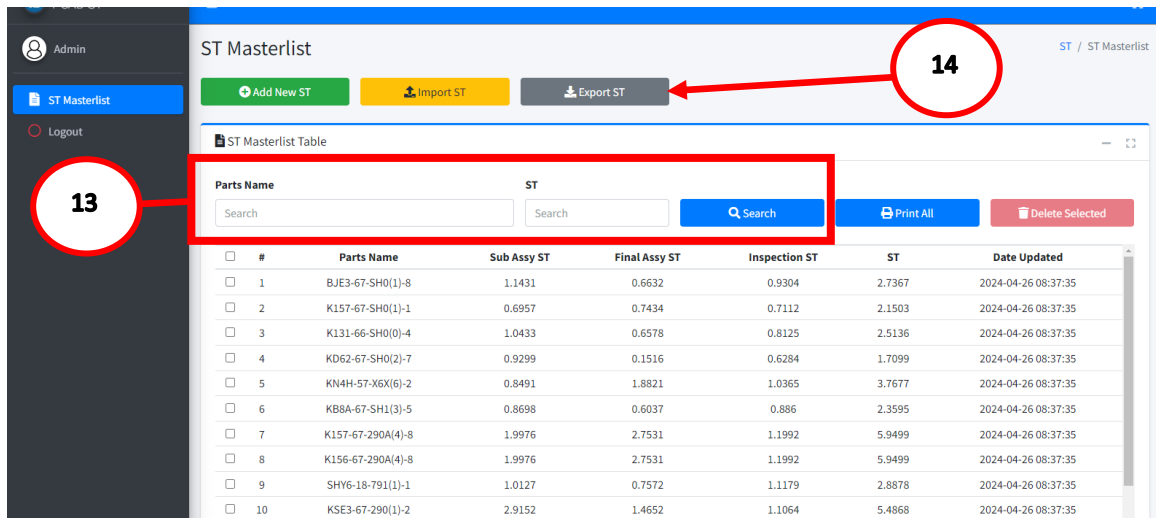

Figure 1.9
13. Before exporting, use **input fields** for searching if filtered data is needed as a result of export ST information. (See Figure 1.9).
14. Click **Export ST** button to export ST information in a csv file format. (See Figure 1.9).